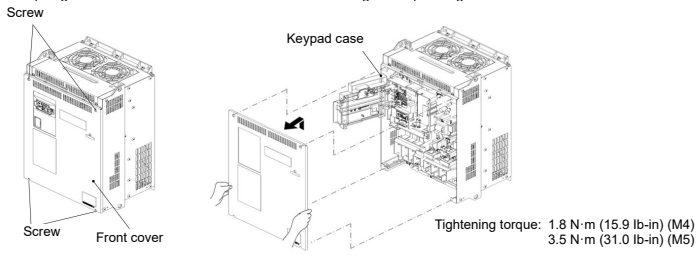

Figure 2.2-6 Removal of the front cover (for VF1A-G139AS4)
(4) Types VF1A-G85A0S4 or above
- After routing the wires, align the front cover top edge to the screw holes and attach the cover reversing the steps in Figure 2.2-6.